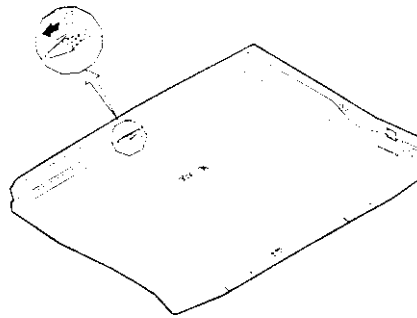

Figure 1-6
1. To release the top cover slide the latch to the right (Figure 1-6).